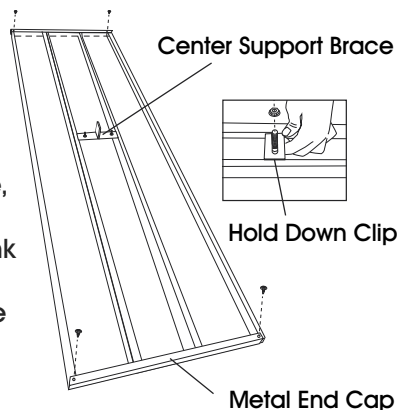

Figure 1
1. Lay three aluminum planks side by side, upside down, on a flat surface to form the tabletop. Slide the metal caps onto each end. One end cap covers the three planks. The pre-drilled holes of the end cap should be facing up. Use power drill and two self-tapping screws to secure each metal end cap onto each end of the tabletop. Loosely attach the center support brace, centered, onto the middle tabletop plank using two hold down clips, two 5/16" flange nuts and two 5/16" carriage bolts. (See Figure 1)